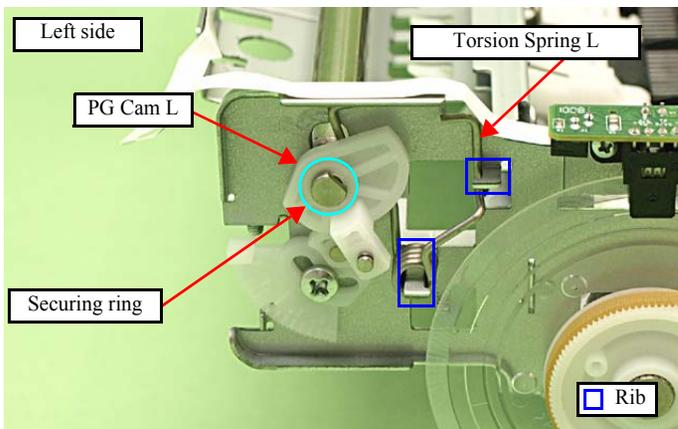

Figure 4-135. Removing the Carriage Unit (4)
- Remove the securing ring that secure the PG Cam R and remove the PG Cam R. (See Fig. 4-135.)
13. Removing the Torsion Spring L. (See Fig. 4-135.)
- When installing the Torsion Spring L, hook the spring leg between PG Cam L and the Main Frame, and attach it to the ribs (x2) of the Main Frame. (See Fig. 4-135.)